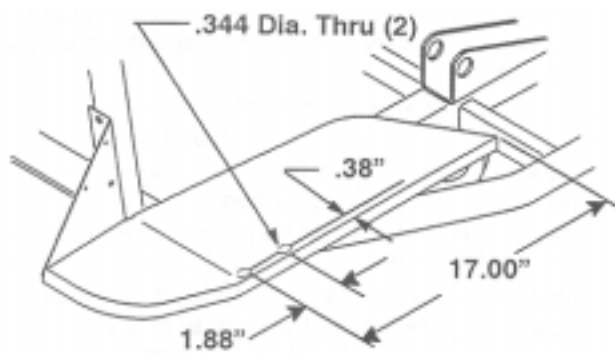

Figure 7
2. Refer to the dimensions in Figure 7 to mark, locate, and drill 2 holes (11/32 inch diameter) through the left floor board.